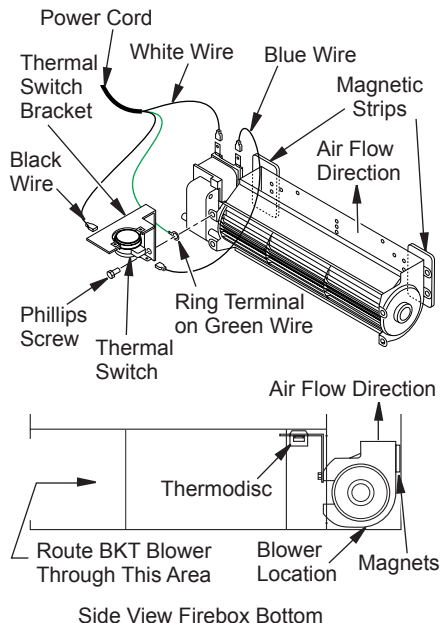

Figure 28 - Blower Model BKT
1. Place green ground wire with ring terminal between bottom hole on thermal switch bracket and top ear hole on blower assembly. Insert Phillips screw into all three pieces and tighten securely (see Figure 28).
3. Place blower against lower rear wall of firebox outer wrapper with exhaust port directed upward and thermodisc positioned up near fireplace bottom. Thermodisc must be oriented near fireplace bottom as shown in Figure 28 in order to sense temperature and properly operate. Blower will be held in position against back wall by magnets incorporated onto blower housing (see Figure 28).